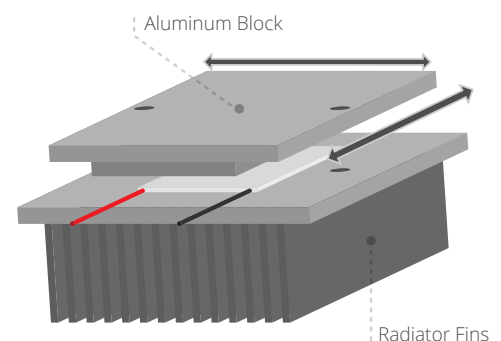

FIGURE 5. INSTALLING THE ALUMINUM BLOCK
6) Place the aluminum block onto the heat absorbing side of the Peltier Module. Once again, apply light pressure to the block and slide it back and forth, left and right, to ensure a tight fit and lose any layer of air between the connecting sides. **[figure 5]**